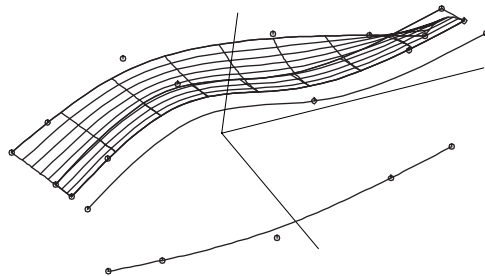

Fig. 18
- 4 Select 'pt25' and 'pt26', in that order, and 'xcv24' and make another **Relative Curve**. Name this Relative Curve 'relcvlower'. **OK** (Fig. 18)